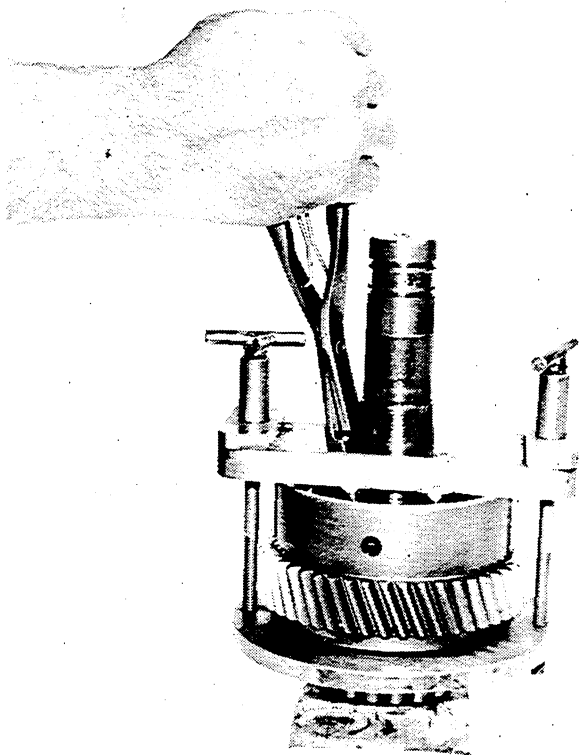

Figure 8-7. *Compressing Clutch Piston Return Spring and Removing External Retaining Snap Ring.*
9. Compress the clutch return spring (Figure 12-3, 10) with special tool T-16752 and remove external snap ring (11). See Figure 8-7.
4. Use special tool T-16752 to compress the spring and install external snap ring (Figure 12-3, 11). See Figure 8-7.